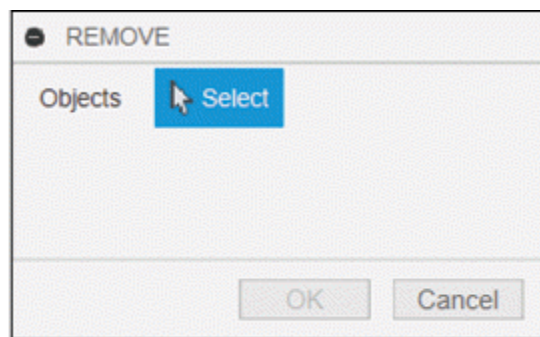

Figure-65. REMOVE dialog box
- Click on the **Remove** tool from the **MODIFY** drop-down in the **SOLID** tab of **Ribbon**. The **REMOVE** dialog box will be displayed; refer to Figure-65.